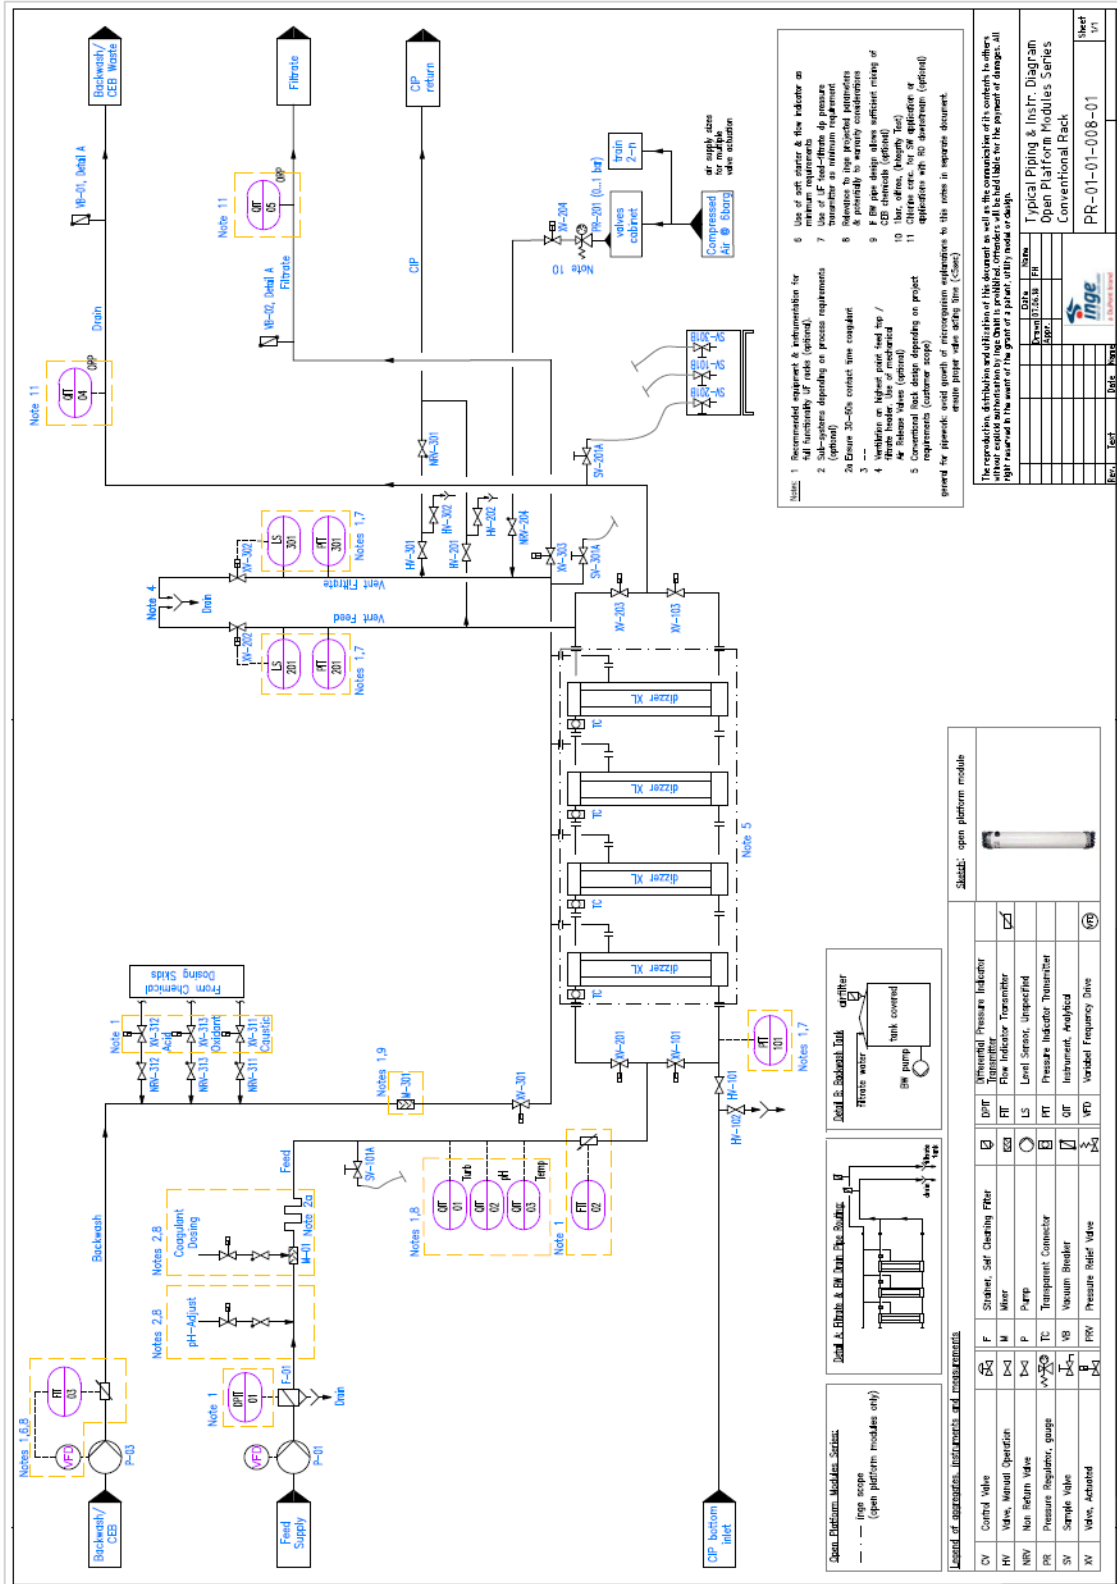
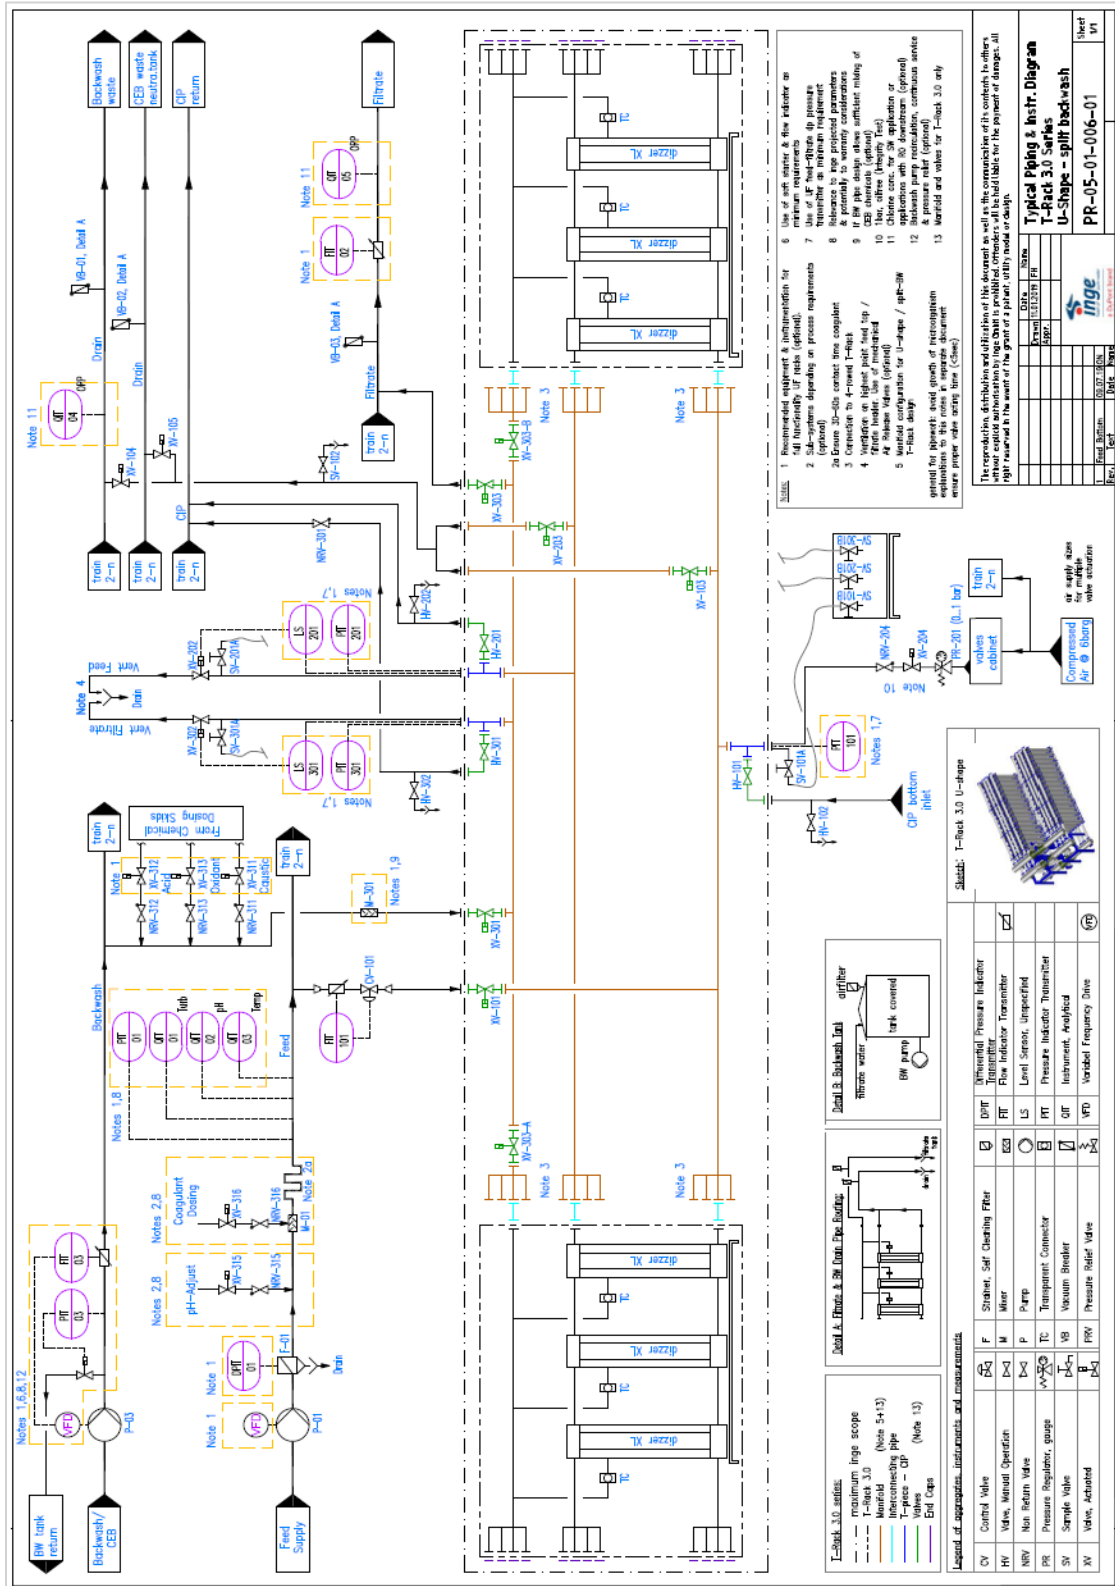

Figure 8.2-1 - Flow Diagram for a UF System PES-UF Modules for Open Platform (version conventional)
Figure 8.2-4 - Flow Diagram for UF System T-Rack™ (version split rack)
- UF systems with PES-UF Modules and UF systems with T-Rack™ should adhere to the basic flow diagrams shown in the following diagrams (see Figure 8.2-1 to Figure 8.2-4).